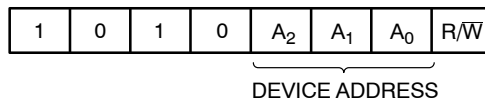

Figure 3. Slave Address Bits
The Master addresses a Slave by creating a START condition and then broadcasting an 8-bit Slave address. For the NV24C32LV, the first four bits of the Slave address are set to 1010 (Ah); the next three bits, A₂, A₁ and A₀, must match the logic state of the similarly named input pins. The R/ $\overline{W}$ bit tells the Slave whether the Master intends to read (1) or write (0) data (Figure 3).